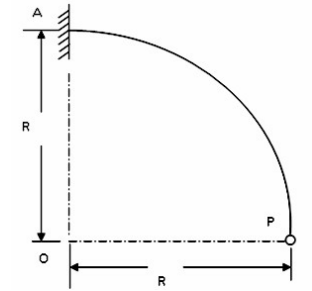

Fig. 7
5. (a) A quarter circle beam of radius R curved in plan is fixed at end free at end B as shown in fig. 7. It carries a vertical load P at its end. Determine the deflection at the free end and sketch the force, bending moment and torsional moment diagrams. (Assume flexural rigidity EI = torsional rigidity GJ.)